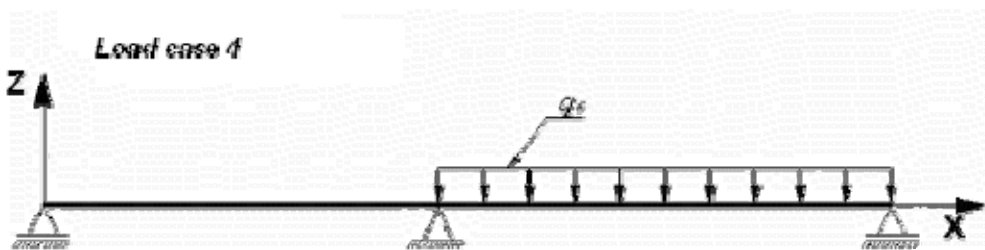

Figure 7.6 Load case No.4 for beam
- load case 4 – uniformly distributed load in the second span  $q_4 = 0.87 \text{ t/m}$  (see Figure 7.6);